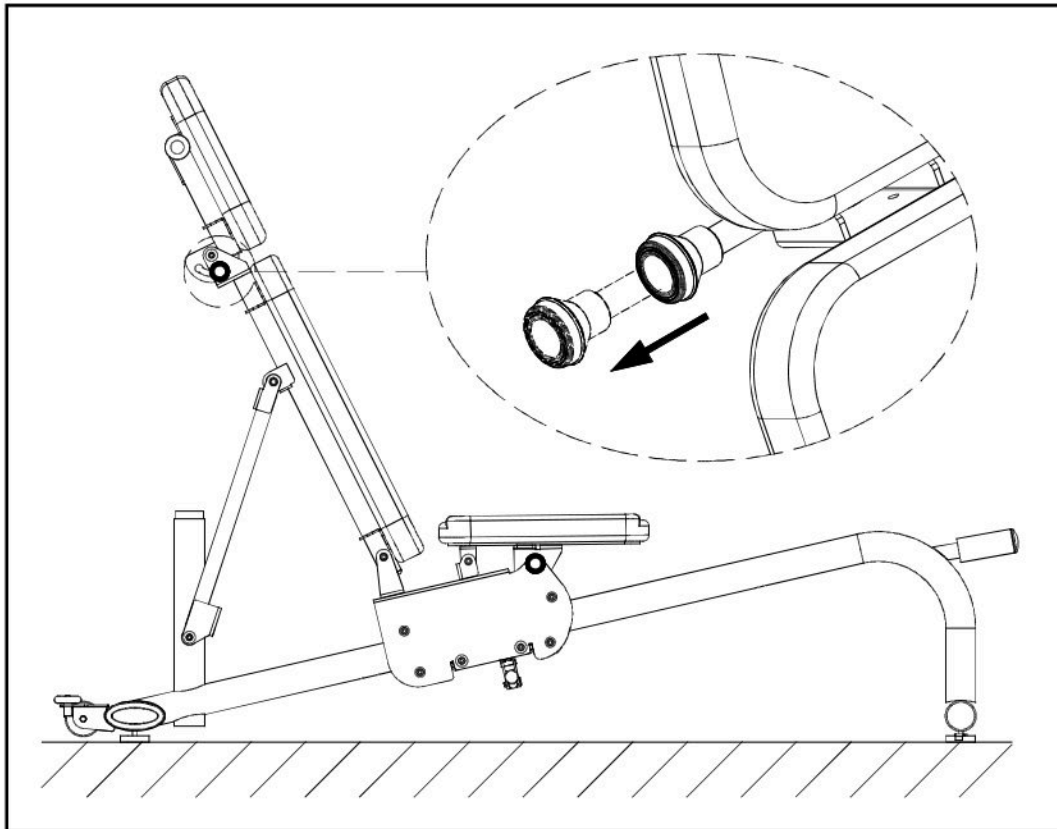

Fig.5
5. Pull the headrest adjustment knob B. See Fig.5.